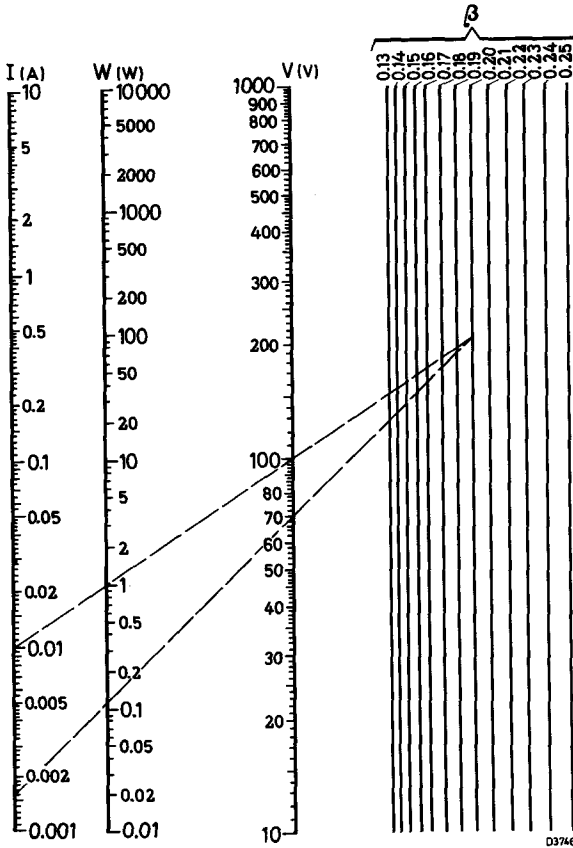

Fig. 3
VDR's do not have a polar effect, i. e., when the voltage polarity is reversed, the current changes in direction, but not in magnitude. Equations (1) and (2) are only valid for absolute values of voltage and current; this may be of importance in a. c. calculations. To avoid lengthy calculations, equation (1) has been converted into a nomogram (fig. 3), which gives the corresponding values of voltage and current for any given silicone carbide VDR. When a straight line is drawn between the voltage and current points for a VDR, and produced to intersect the β -line, all other straight lines radiating from that point will give values of voltage and current that apply to the given VDR, e. g., for a VDR having